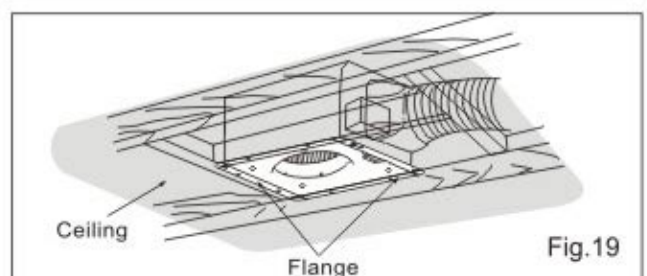

Fig.19
- Finish ceiling work. Ceiling hole should be aligned with edge of the flange. (Fig.19)